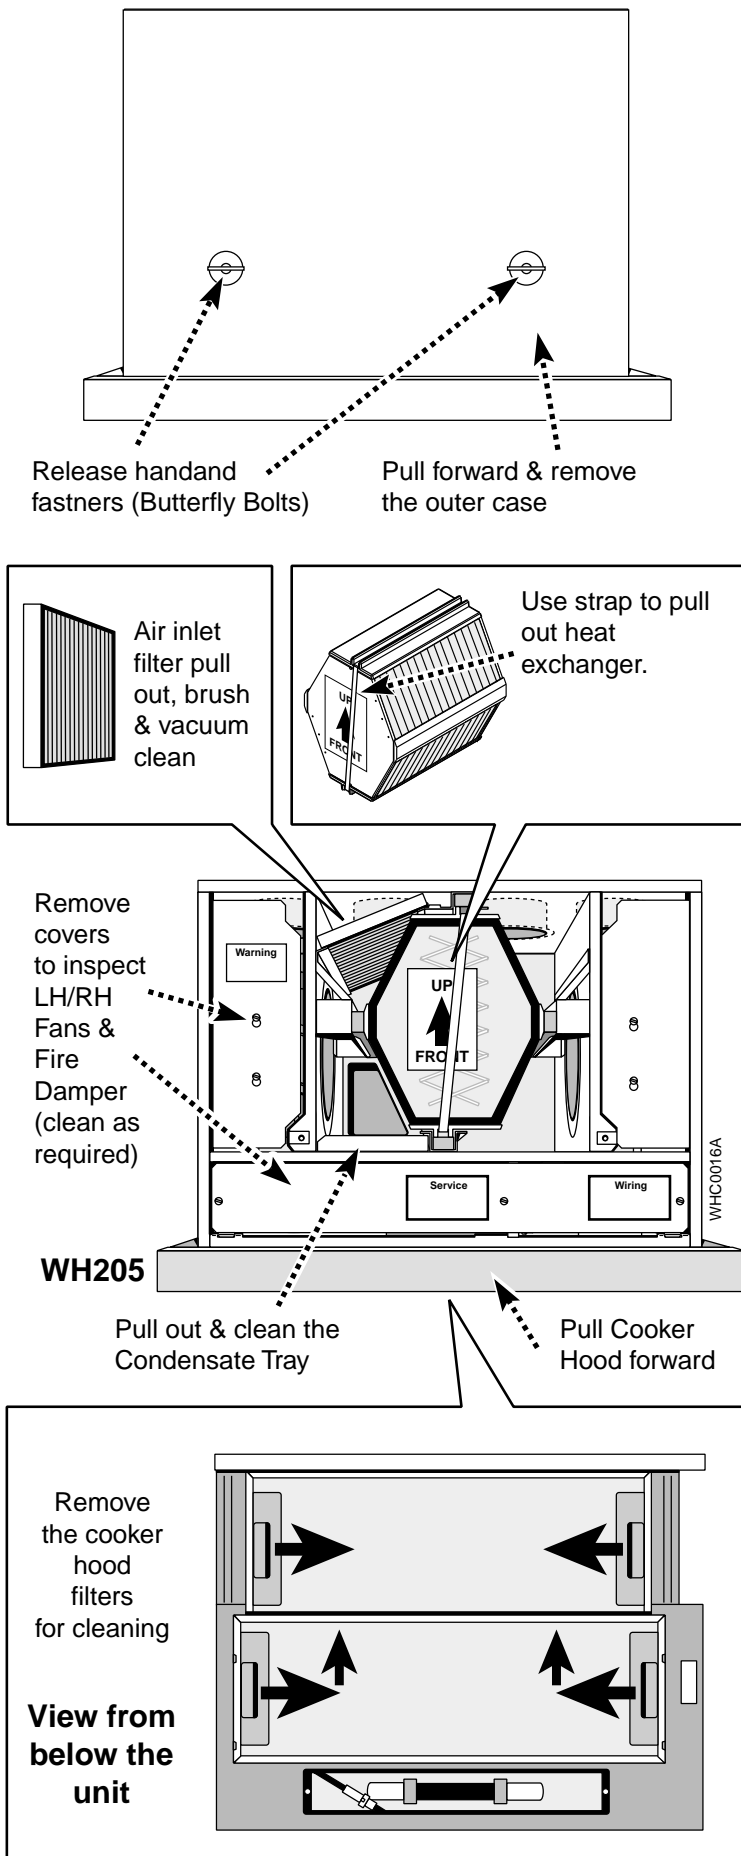

Fig. 24
9. Check the condition of the four heat exchanger sealing strips and front door seal. Replace all seals as necessary (Fig. 24).